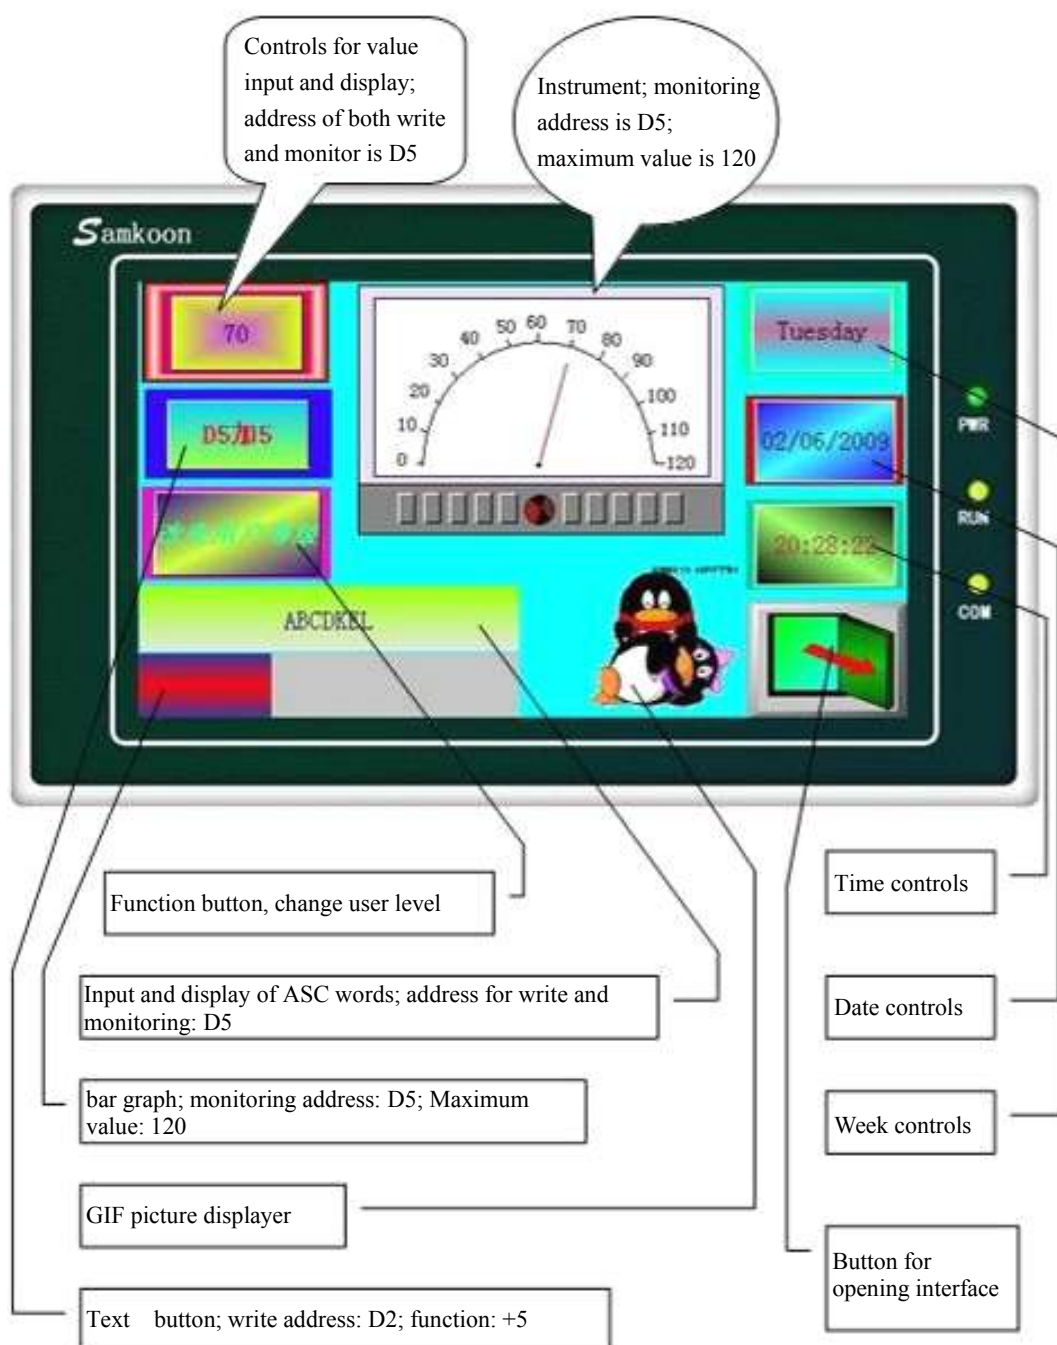

Figure 6-2 Example of SA-4.3A off-line simulation
As shown in figure 6-2 below, you can carry out the off-line simulation of edited configuration. Use mouse to click value display and input. It can be seen that pointer of instrument panel points to 70 if you enter 70. The project designer can better check and find some problems in project configuration screen through off-line simulation, such as the correctness of selected monitoring address and relationship between controls, to ensure good preparations.
- ✓ Click "Save" to save the project. Then, select "Off-line Simulation" in option "Download" in menu bar to pop up a screen as shown in figure 6-2. The introduction of off-line simulation example ends.